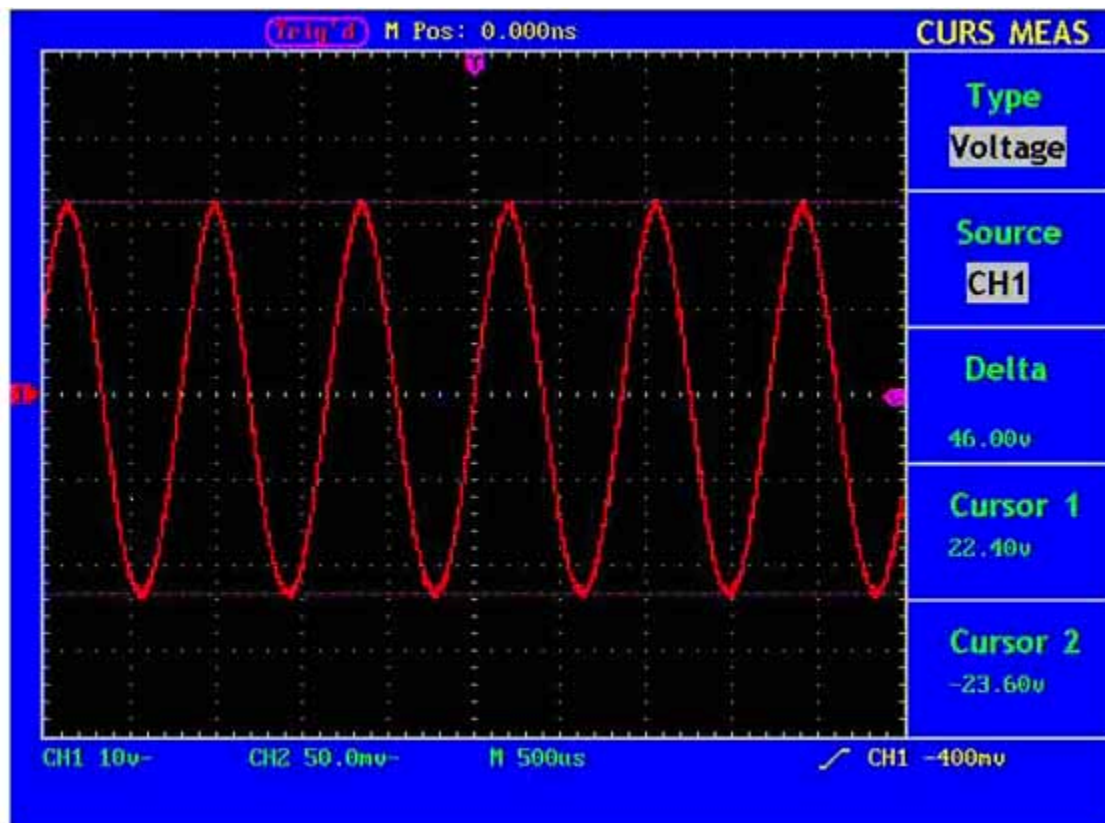

Fig. 53 Wave Form of Voltage Cursor Measurement
4. Adjust the positions of **CURSOR1** and **CURSOR2** according to the measured wave form, with the absolute value of the voltage amplitude difference between Cursor 1 and Cursor 2 displayed in the increment window. The current position of Cursor1 is displayed in the Cursor1 window and that of Cursor2 is displayed in the Cursor2 window (see Fig. 53).